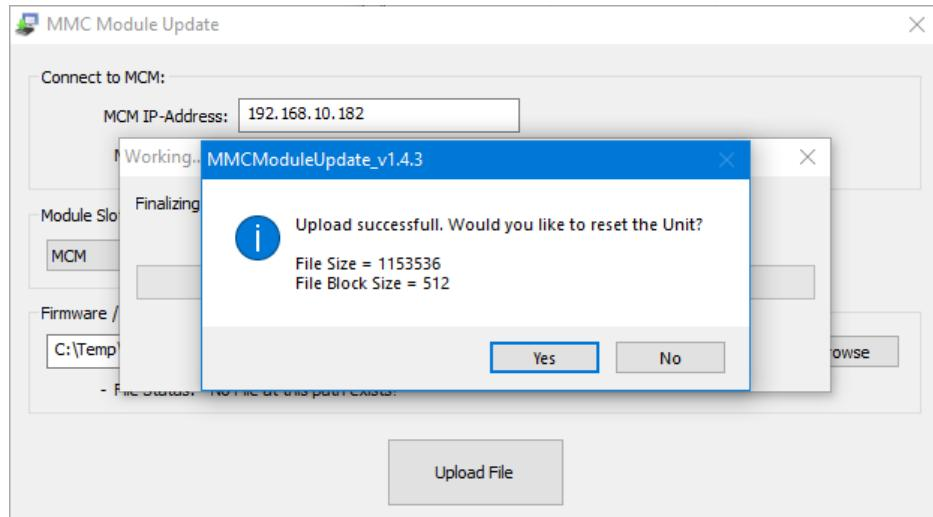

**Figure 25. MMC Module Update Application**
3. Launch the MMCModuleUpdate.exe (v1.4 or later). Once launched, the application should appear like it does in Figure 25.